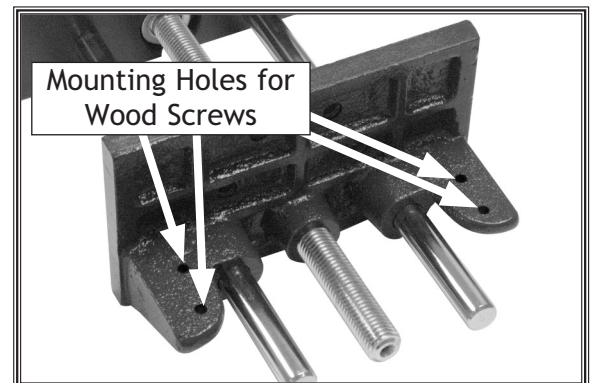

Figure 3. Mounting hole locations.
2. Use a pencil to mark the workbench through the four vise mounting holes (**Figure 3**) so you know where to drill pilot holes in the workbench.